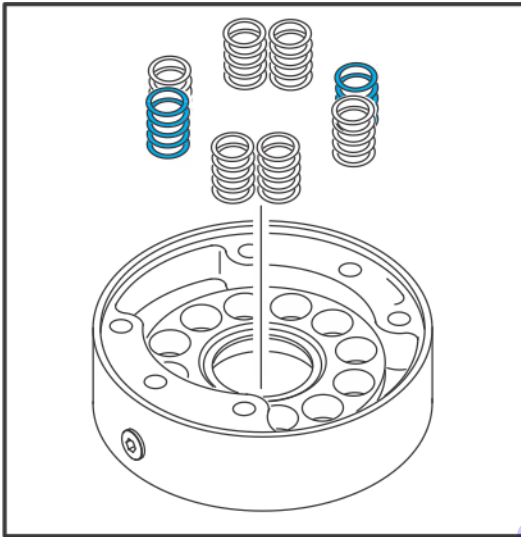

Figure 3-53. Swing Brake 8 Spring Orientation
- a. Assembly of shaft seal (12).
- b. Assembly of bearing (10).
- c. Quantity and orientation of springs (8).
1. Lightly lubricate rotary shaft seal (12) and assemble to housing (2) taking care not to damage seal lip.
2. Apply ring of Loctite 641 or equivalent adhesive to full circumference of housing (2) bearing recess adjacent to shoulder. Apply complete coverage of Loctite 641 to outside diameter of bearing (10) and assemble fully in housing (2), retaining with internal retaining ring (11). Remove excess adhesive with clean cloth. Press shaft (1) through bearing (10), ensuring bearing inner ring is adequately supported.
3. Assemble correct quantity of springs (8) as shown. Refer to (See Figure 3-53.)and (See Figure 3-54.).